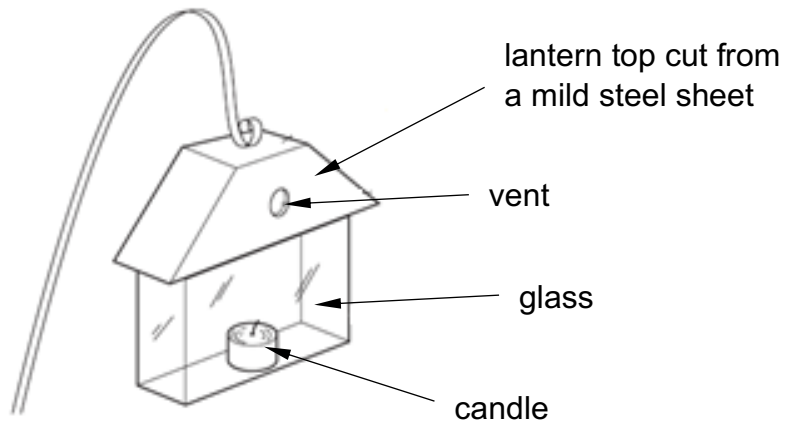

Fig. 15
- 15 Shown in Fig. 15 is a lantern used to provide light outside a house.